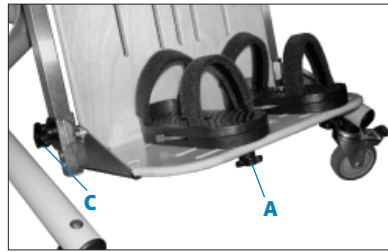

Figure 8b
The footboard can be adjusted to accommodate users of varying heights. Loosen the clamp knobs (C), move board to the desired height, and tighten knobs securely. For the user's security, footboard is best left as close as possible to the floor (see Figure 8b).